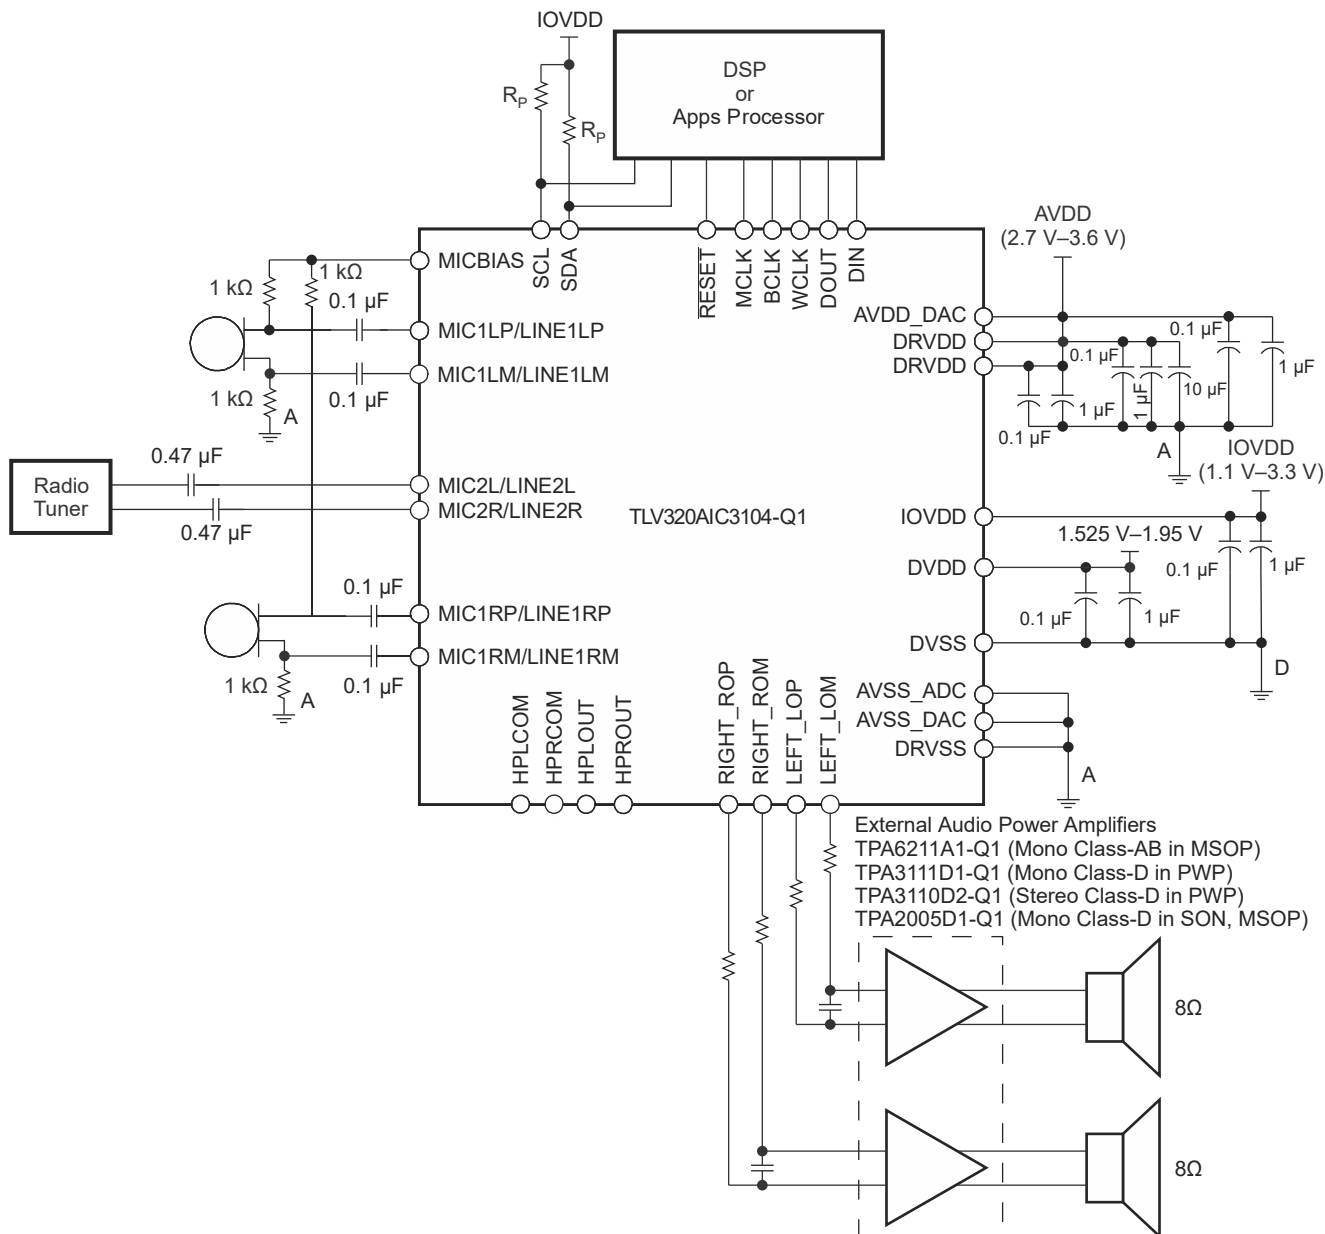

Figure 9-1. Typical Connections With Differential Inputs for External Speaker Driver
- Use Figure 9-1 as a guide to integrate the hardware into the system.